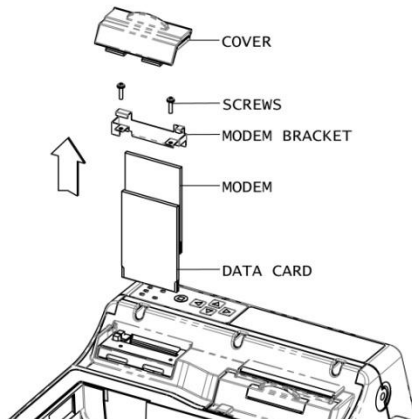
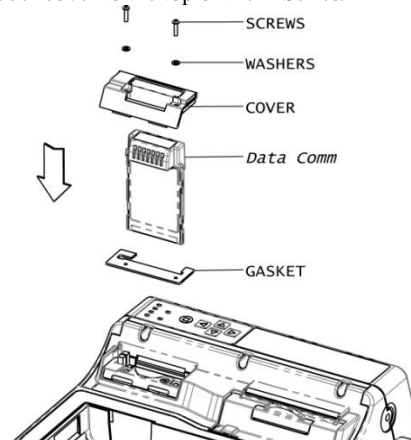

Figure 1
Figure 2
Protected against ingress of solid foreign objects $\geq 2.5\text{mm}$ in diameter. Protected against dripping water when installed as shown in Figure 2.
- The Data Comm card is protected against dripping water when installed as shown in Figure 2. The Data Comm card will stop recording and transmitting data if exposed to extensive moisture.
The existing rubber cover, PCMCIA data cards and modem cards must be removed (see Figure 1 below). Carefully remove the paper backing strip from the adhesive gasket. (**Note:** The adhesive is extremely sticky and will be difficult to reposition once applied.) Align the gasket with the top surface of the card slot and the screw holes for the modem bracket as shown in Figure 2 below and press the gasket in place. The Data Comm card is then installed in the rear most card slot on the E Series when facing the front of the device (see Figure 2 below). Make sure the Data Comm card is fully seated in the card slot. The new rubber cover is then fit down over the top of the Data Comm until it is firmly in place. Two screws, with washers, are used to secure the rubber cover to the top of the E Series.